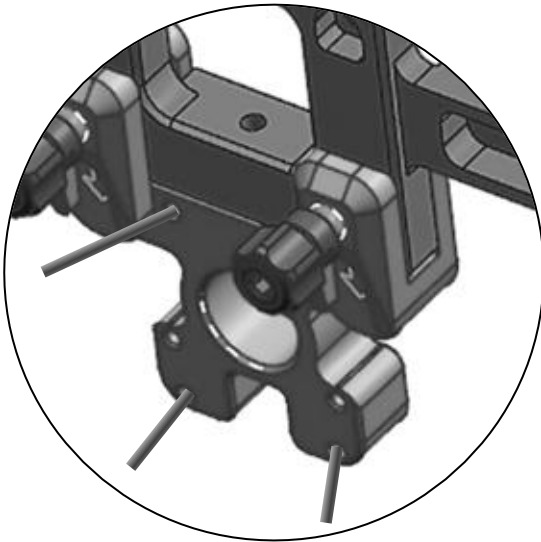

Figure 187
1. Secure the attachment plate to the calcaneus with three 2.4mm Steinmann Pins. (Figure 187) Two pins can be inserted through the bottom holes of the plate (one medial and one lateral) with the 3rd pin in one of the top-hole locations (preferably on the lateral side).